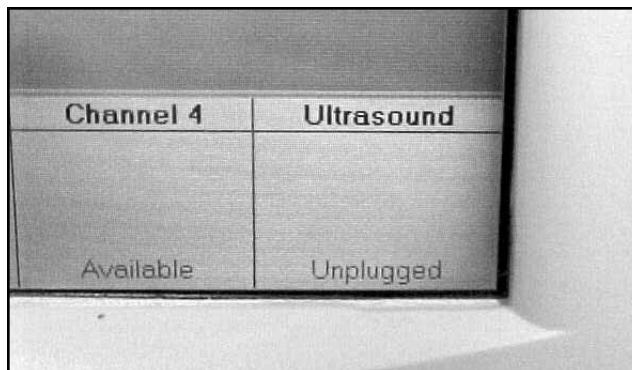

FIGURE 5.21
2. Look at the "Ultrasound" channel icon at the lower R.H. corner of screen. It should read "Unplugged". See Figure 5.21.